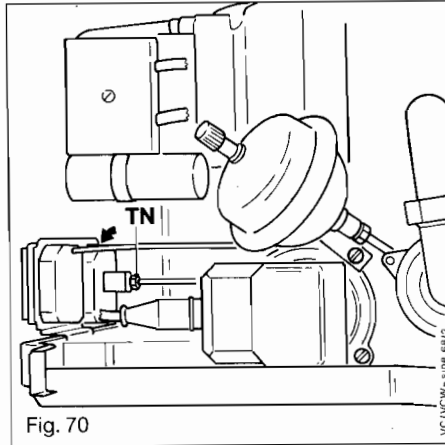

Fig. 70
14.14 Change of pressure gauge (Fig. 70)